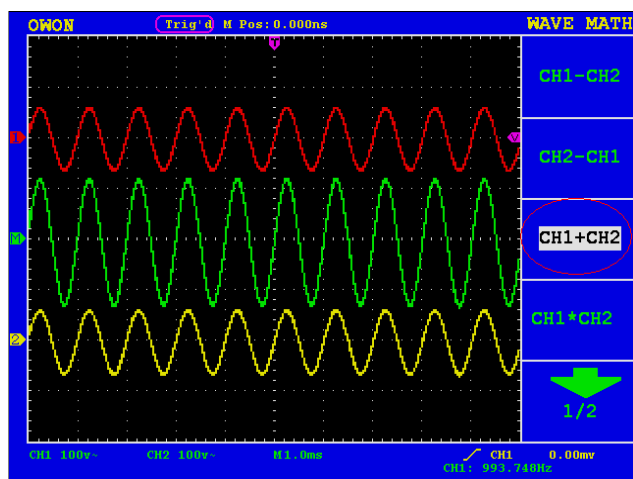

Fig. 27 Wave Form resulted from CH1 +CH2 Mathematical Manipulation
- Press the **F3** menu selection button and choose **CH1+CH2**. The green calculated wave form M is displayed in the screen; press the **F3** menu selection button again, the wave form M is closed off (see Fig.27).